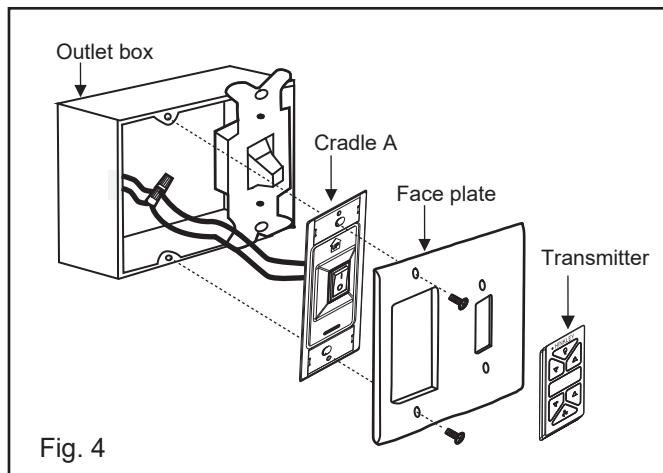

Fig. 4
2. Connect the black lead wires from the switch in the cradle A to the black wires in the switch box. Hot input wire to one of the cradle A switch leads. Power lead to the fan is connected to the remaining switch lead. (Fig. 4)